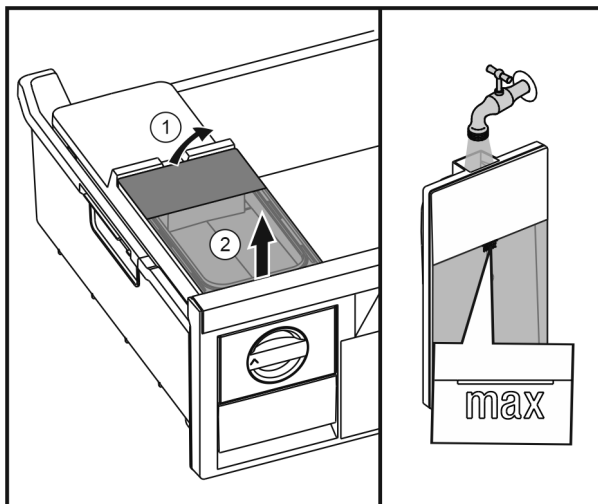

Fig. 28
- Lift up the water tank at the rear Fig. 28 (1) and remove to the top Fig. 28 (2).